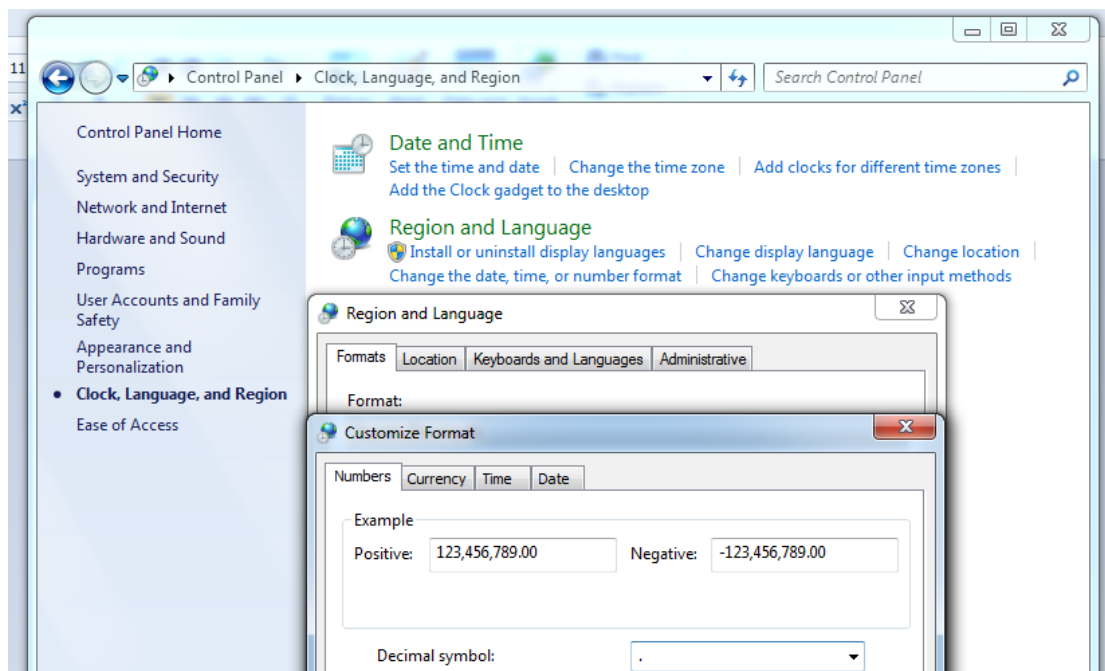

Figure 35 Setting decimal symbol using the Region and Language options in Windows Control panel. Only part of the dialogue is shown.
3. When the Region and Language Options dialogue appears, click the "Formats" and the "Numbers" tab and the dialogue will look as shown in figure 35 (only part of the dialogue is shown).
4. Check if the Decimal symbol is “.” (period), see figure 35. If the Decimal symbol is “,” (comma) change it to “.” (period).